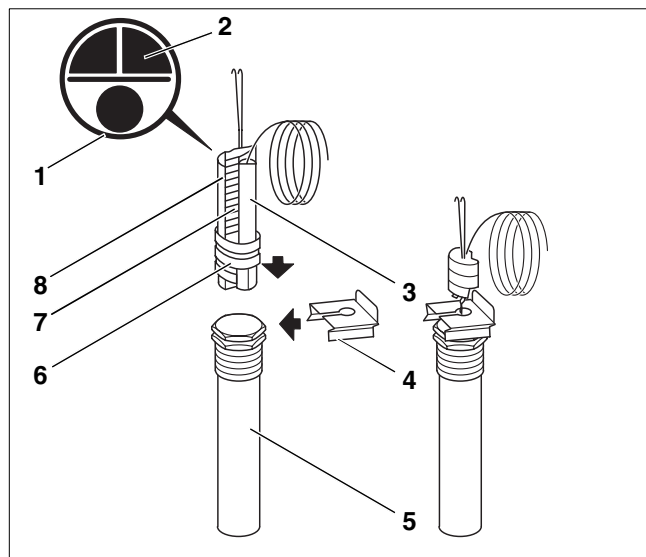

Fig. 1 Immersion sensor assembly
- Insert the immersion sensor unit (Fig. 1, **Item. 1**) until it bottoms out inside the sensor well (Fig. 1, **Item. 5**).
During insertion the plastic spiral (Fig. 1, **Item. 6**) – holding the sensor together – slides back automatically. Insert the compensation spring (Fig. 1, **Item. 7**) and the dummy pieces (Fig. 1, **Item. 2 u. 8**) together with the sensor into the sensor well. These act to push the temperature sensor against the sensor well wall to provide improved heat conductivity.
- Push the sensor holder (Fig. 1, **Item. 4**) laterally over the sensor well head. This prevents the sensor from sliding out of the jacket.
In this case only the sensor (Fig. 1, **Item. 3** and Fig. 2, **Item. 1**) the enclosed immersion sensor unit (Fig. 1, **Item. 1**) are used – the compensating spring and the dummy pieces are not required.